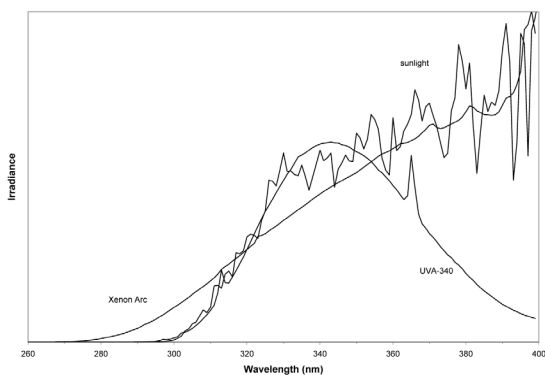

Figure 4 - UVA-340, Xenon Arc, & Sunlight
**Fluorescent UVA-340 Lamps.** The UVA-340 fluorescent lamp was introduced in 1987 to enhance the correlation between fluorescent testers (ASTM G-53) and outdoor weathering. Figure 4 is a graph of the UVA-340 compared to the xenon arc and to summer sunlight. In the critical, short wavelength UV portion of sunlight, from about 365 nm down to the solar cut-off of 295 nm, the UVA-340 gives a closer reproduction of direct sunlight than the xenon arc.